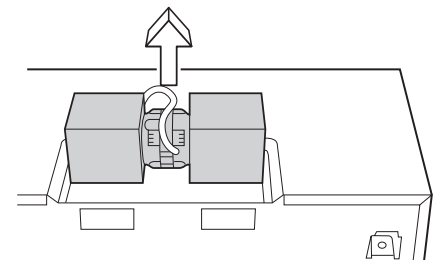

Figure 9
2. Lift Hood Fan Unit carefully and slip wires out of cavity. See Figure 9.